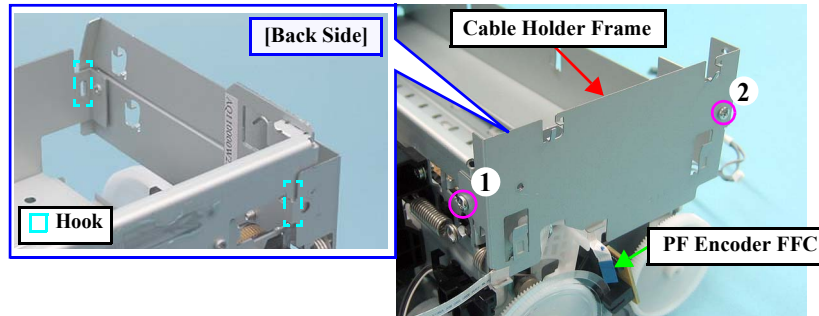

Figure 1-75. Removing the Cable Holder Frame
- When installing the Cable Holder Frame, match the two hooks of the Cable Holder Frame with the positioning holes of the Main Frame and Front Frame as shown in Fig.1-75 \(p.47\), and tighten the screws in the order given in the figure.